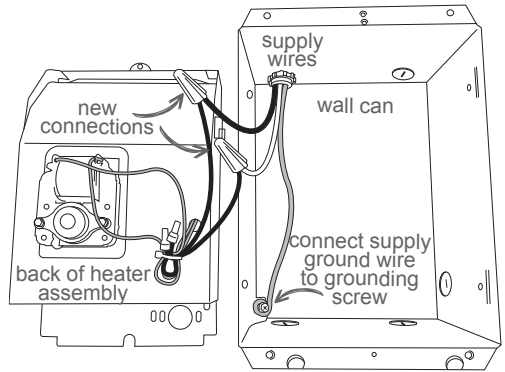

Figure 4
1. Connect supply ground wire to grounding screw in wall can (See Figure 4).
3. Connect the remaining supply wire to the remaining heater wire with a wire connector (not included) (See Figure 4).